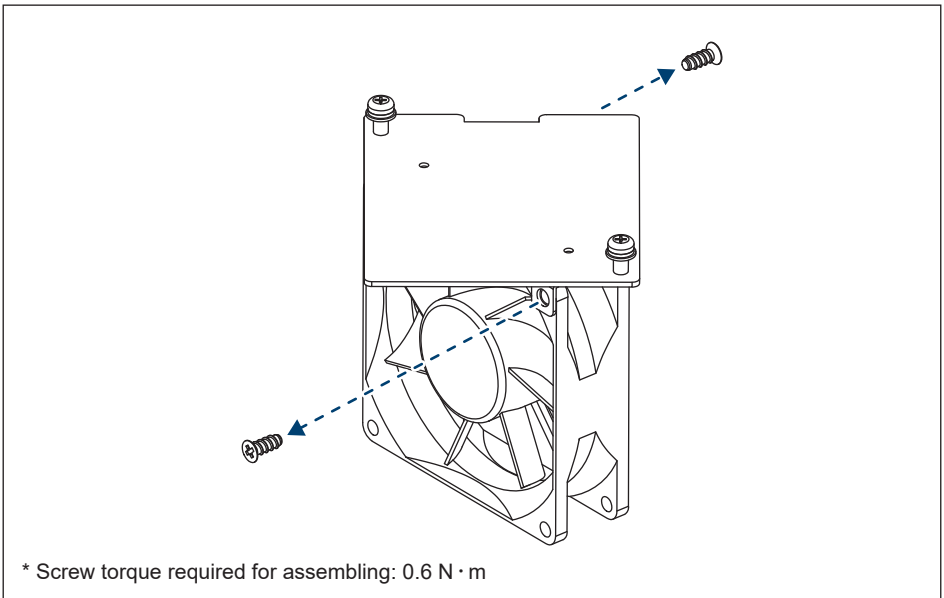

Figure 5-12: Replace with a new fan
- (4) Lift the entire fan assembly. (**Figure 5-12**)
- (5) Clean assembly or replace with a new fan.
- (6) Reassemble by using $0.8 \text{ N} \cdot \text{m}$ tightening torque.